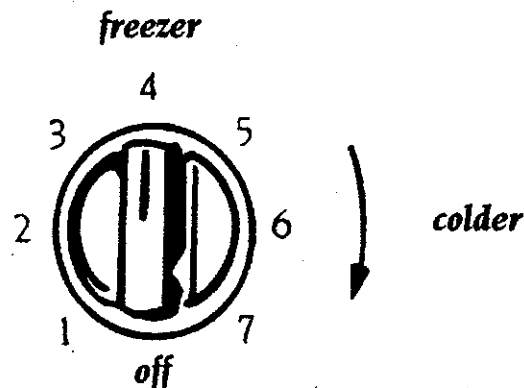

Figure 3
- Locate freezer control inside compartment at front of upper left corner. Set control to "4" and adjust as desired after 24 hours. "1" is warmest setting; "7" is coldest setting. See Figure 3.